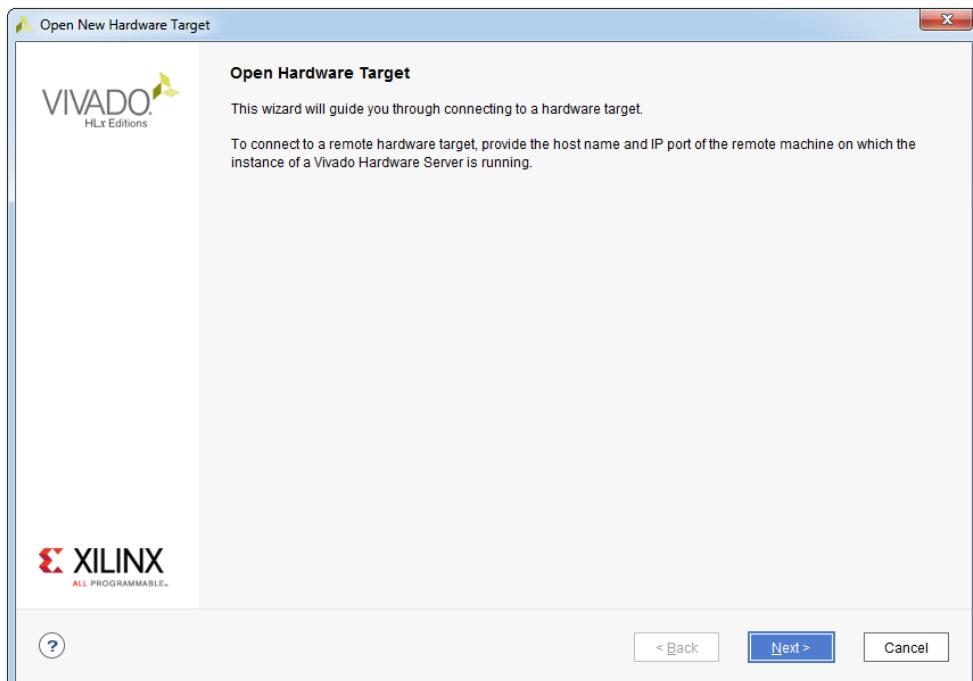

Figure 10.36: Open Hardware Target dialog box
6. Click on the **Open New Target** command. The **Open New Hardware Target** wizard provides an interactive way for you to connect to a hardware server and target, see Figure 10.36.